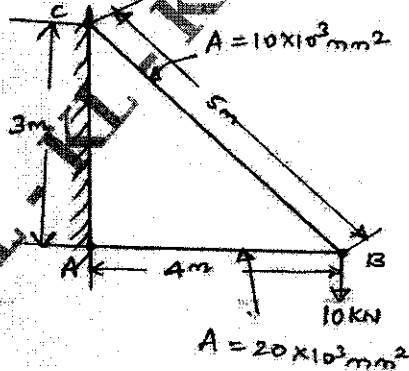

Fig.Q10
- 10 Using stiffness method determine the displacements at the joint 'B' of a pin-jointed frame shown in Fig.Q10. Also calculate the forces in the members AB and BC due to given loading. The values of area of cross-section are indicated. Take  $E = 2 \times 10^5 \text{ N/mm}^2$ . (16 Marks)